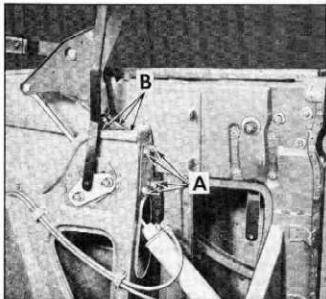

Fig. 51—1953 Folding Top Hinge Adjustments
1. Loosen four bolts "A" securing the hinge support (fig. 51).
1. Loosen three bolts "B" located down in quarter (fig. 51).